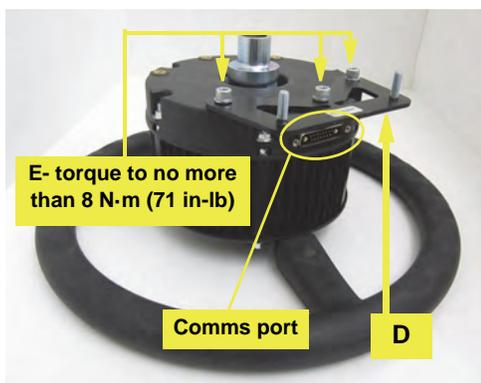

Figure 2a: ‘T’ bar mounting installed
- a. Using hardware **E**, attach the anti-rotation ‘T’ bar mount **D** (studs upward) to the base of the steering wheel assembly on the same side as the communications port (Figure 2a).
- b. Using nuts **G** attach ‘T’ bar **F** to **D**. Torque all fasteners to **8 N·m (71 in-lb)** (Figures 2a and 2b).